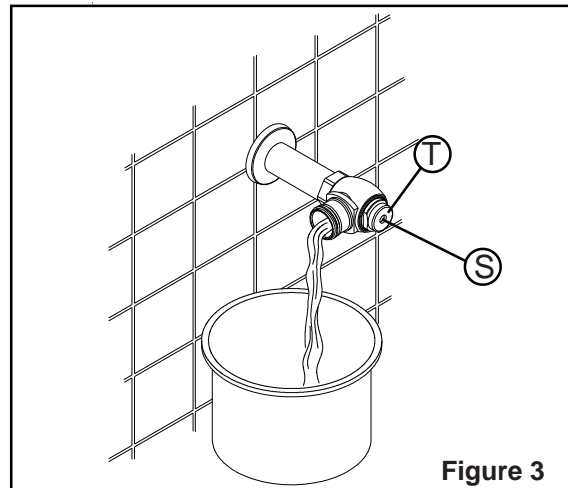

Figure 3
- A. Before the valve is installed, open each stop fully for a brief time and catch the water in a two gallon or larger bucket (Figure 3). For multiple installations, start with the stop valve closest to the water supply and work toward the most remote valve.